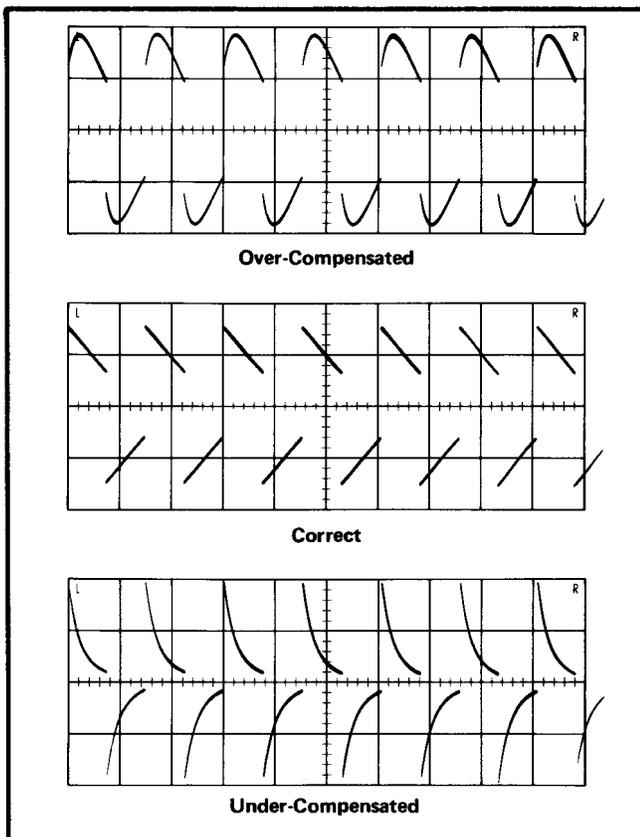

Fig. 5-3. Adjustment of LF COMP.
- ADJUST—LF COMP (R154) for a straight but tilted top on the displayed square wave (see Fig. 5-3).
h. ADJUST—LF COMP (R154) for a straight but tilted on the displayed square wave (similar to Fig. 5-3).